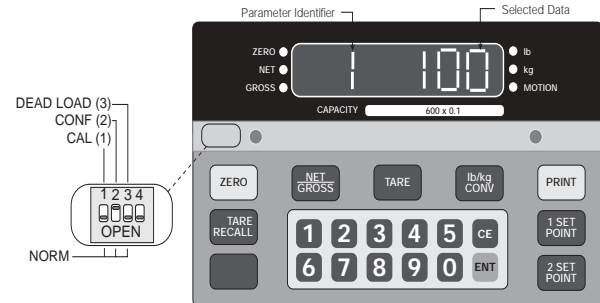

Figure 3-2. Closing Switch 2
3. Close switch SW1-2, marked CONF (2), by moving to the up position (see Figure 3-2). A prompt appears with a parameter number and data value.